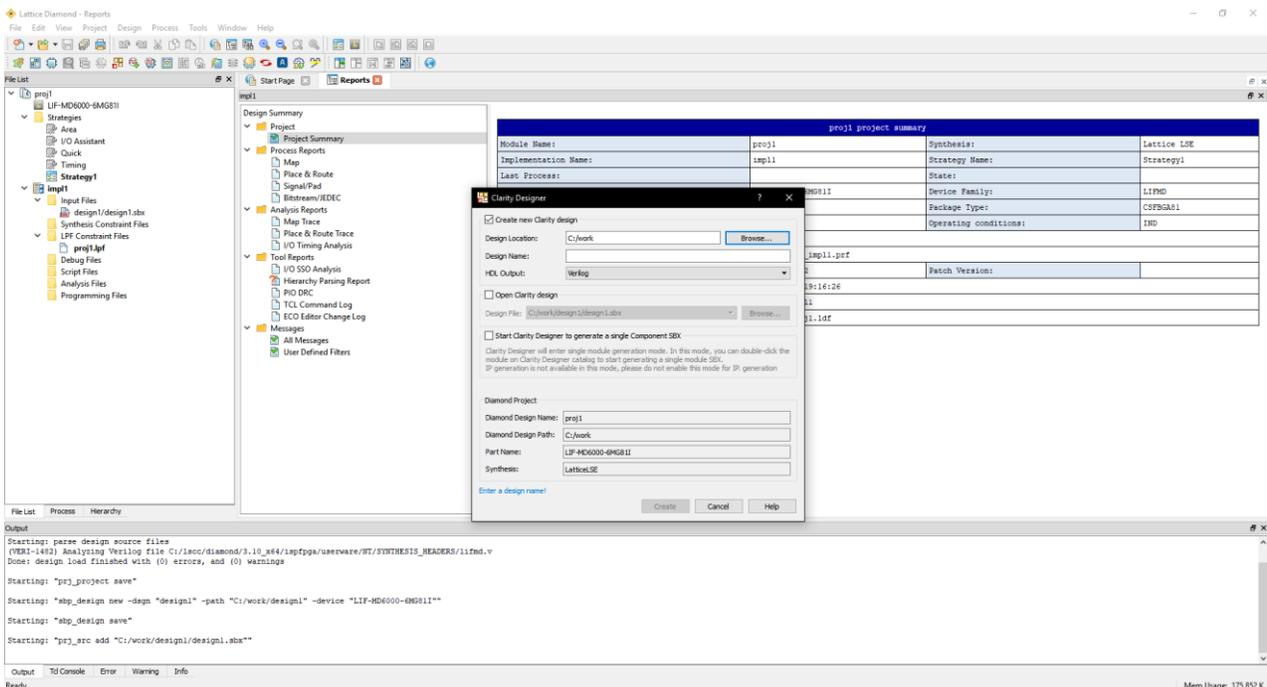

Figure 4.2. Starting Clarity Designer from Diamond Design Environment
3. Select and/or fill out the following items as shown in Figure 4.2.